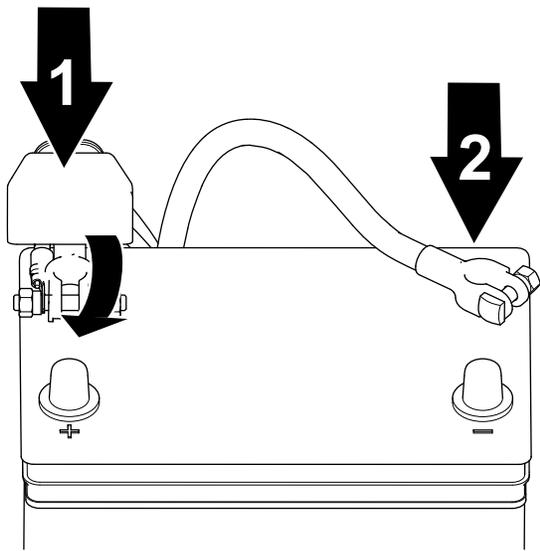

Figure 44
1. Connect the positive cable to the battery and tighten the battery-clamp nut (Figure 44).
2. Connect the negative cable to the battery and tighten the battery-clamp nut (Figure 44).